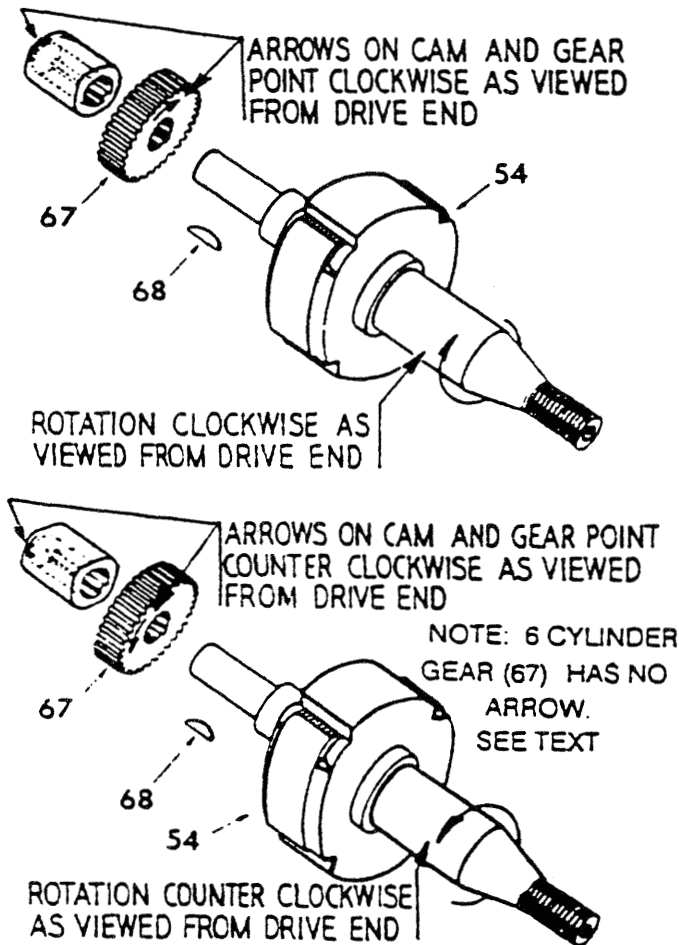
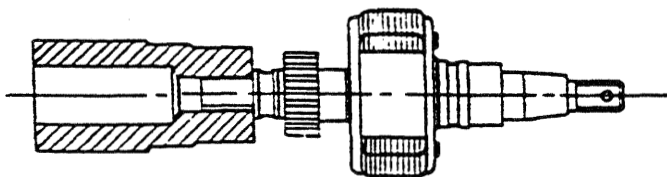

Figure 901. Correct Assembly of Gear and Cam
Figure 902. Installing Cam End Bearing Inner Race
- A. Support shaft of magnet rotor (54) on a block of wood, tap pinion gear Woodruff key (68) into keyway and assemble gear (67) to shaft as follows:
- (1) Four cylinder magnetos incorporate a pinion gear (67) which has an arrow on each side. If magneto is of clockwise rotation, install gear on shaft so arrow points in a clockwise direction when viewed from the drive end. See Figure 901. If magneto is of counterclockwise rotation, arrow must point in a counterclockwise direction when viewed from the drive end.
- (2) Six cylinder magnetos incorporate a pinion gear (67) which has a chamfer on only one end of the tooth. There are no arrows on this gear. Chamfered end of tooth should be toward rotor casting when installed.
- B. Place plain washer (66) on shaft next to pinion gear, followed by original shim washers (65) or shim washers (65) totaling approximately .036 in. thickness if rotor (54) or distributor housing (48) has been replaced. Using small end of the 11-6924-1 Pressing Tool and an arbor press, press inner race of new bearing (64) on rotor shaft, lettered side toward pressing tool. See Figure 902.
- J. Place cam (63) on shaft so arrow on cam points in the correct direction for magneto rotation. See Figure 901. Using screw with lockwasher (61) and plain washer (62), secure cam in position with 21 to 25 in.-lbs. of torque. Wipe contour of cam with a clean cloth dampened with Breaker Felt Lubricant 10-86527.